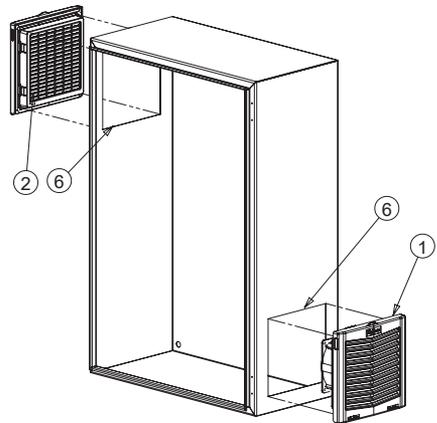

Figure 2
4. Insert fan or grille and push into opening until snapped and locked. See Figure 2.
9. Install the grille as shown in Figure 2